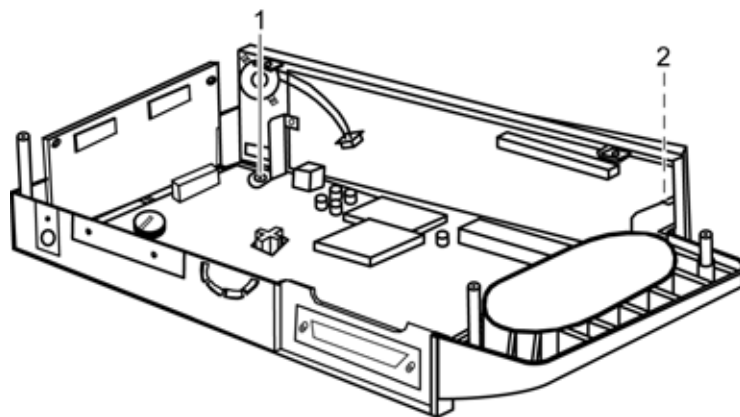

Figure 18: Front Case Mounting Screws
4. Disconnect the speaker wire connector, item 2, from the main PCB.
5. Disconnect the ribbon cable connector, item 3, from the front case PCB.
6. Remove the bracket screw connected to the main PCB. See Figure 18 item 1.